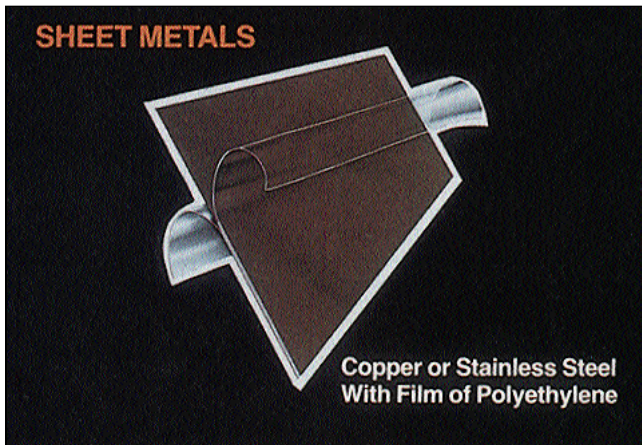

Figure 1. Although copper is a good flashing material, it can stain masonry. To prevent this, copper sheet metal is often coated with polyethylene.
*Copper,* on the other hand, is an excellent flashing material for masonry. It is moderately priced, a superb moisture barrier, and resists the alkalis in fresh mortar (Figure 1). It also is unaffected by low temperatures and rough handling.